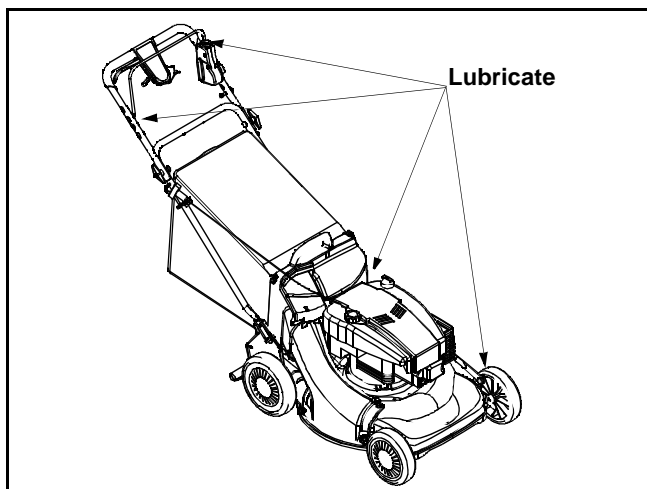

Figure 16
**Blade Control:** Lubricate the pivot points on the blade control handle at least once a season with light oil. The blade control must operate freely in both directions. See Figure 16.
**Wheels:** Lubricate the wheels at least once a season with light oil (or motor oil). If the wheels are removed for any reason, lubricate the surface of the axle bolt and inner surface of the wheel with light oil. See Figure 16.